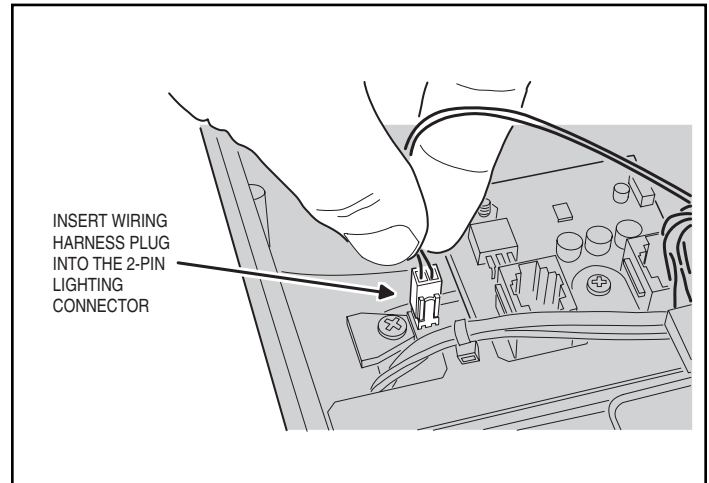

Figure 19. Connecting the Camera's Lighting Power
3. Connect the wiring harness 2-pin lighting power connector onto the camera's infrared lighting power connector (see Figure 19).